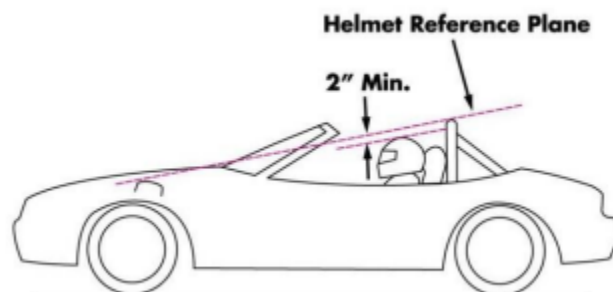

Figure 1. Helmet Reference Plane
1.1. With the driver and passenger seated normally and restrained by the seat belts/harnesses, a plane (the "Helmet Reference Plane") drawn from the top of the roll bar (excluding padding) to structural parts of the chassis in front of the base of the windshield (e.g., top of front suspension strut towers) shall pass at least two (2) inches above both the driver's and passenger's helmets. See Figure 1.